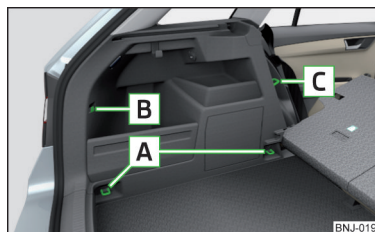
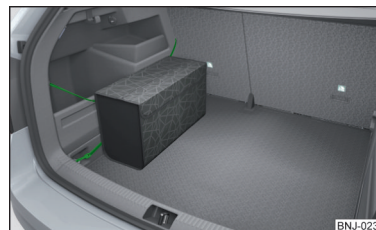

Fig. 94
Fig. 97
Overview of the fasteners » Fig. 94
- The lashing eyelets  » Fig. 94 on page 84 cannot be used for attaching nets, when the variable cargo floor is in the upper position » page 89¹⁾.
The pocket » Fig. 97 can be secured to the fastening elements ,  and  » Fig. 94 on page 84.